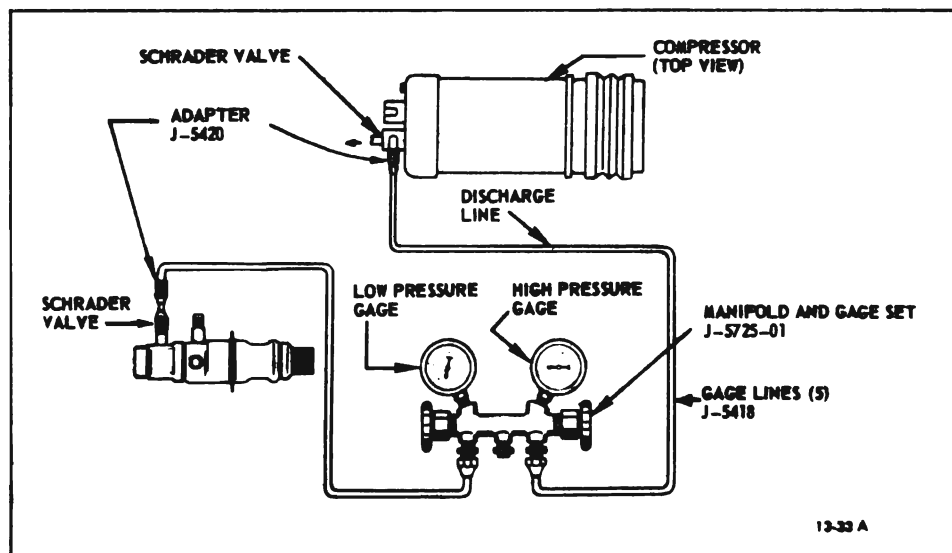

Figure 13-50 Set-Up for Discharging System
2. Install Adapters (J-5420) onto each Schrader valve, see Figure 13-50, and connect a Gage Charging Line (J-5418) between each adapter and the outer connecting ports of the Manifold and Gage Set (J-5725-01). Both valves of manifold and gage set must be closed.